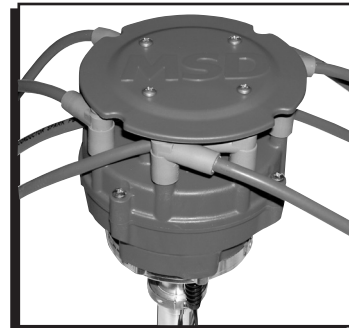

Figure 5 Installing the Wire
- Install the Wire Retainer over the wires and use the supplied four self tapping screws to secure it (Figure 5). Depending on the style spark plug boots being used, the Retainer may not sit all the way flush on the posts of the cap.